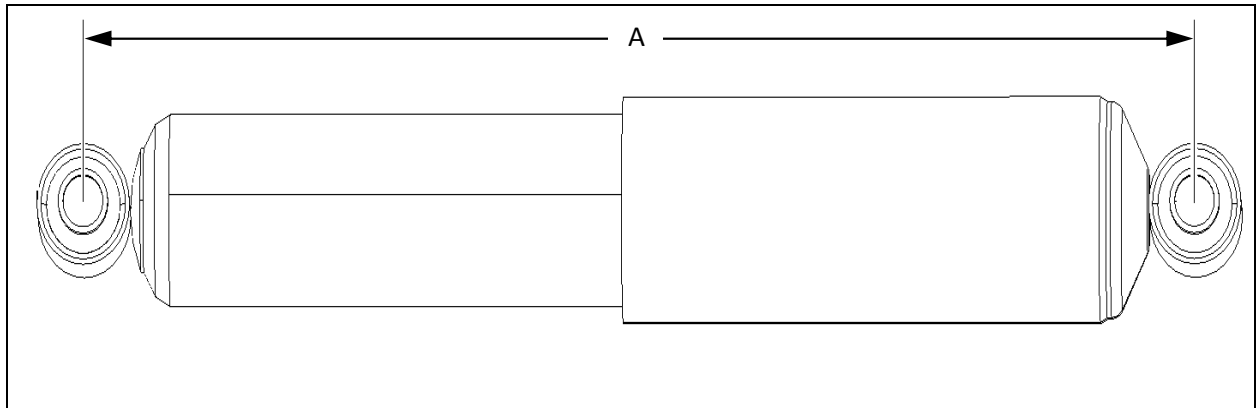

Figure 3
6. Shock absorber strap application is determined by the extended, compressed and strap restricted length of the shock absorber. All shock absorber dimensions are measured between the centres of the mounting eyes, refer to dimension A in Figure 3.